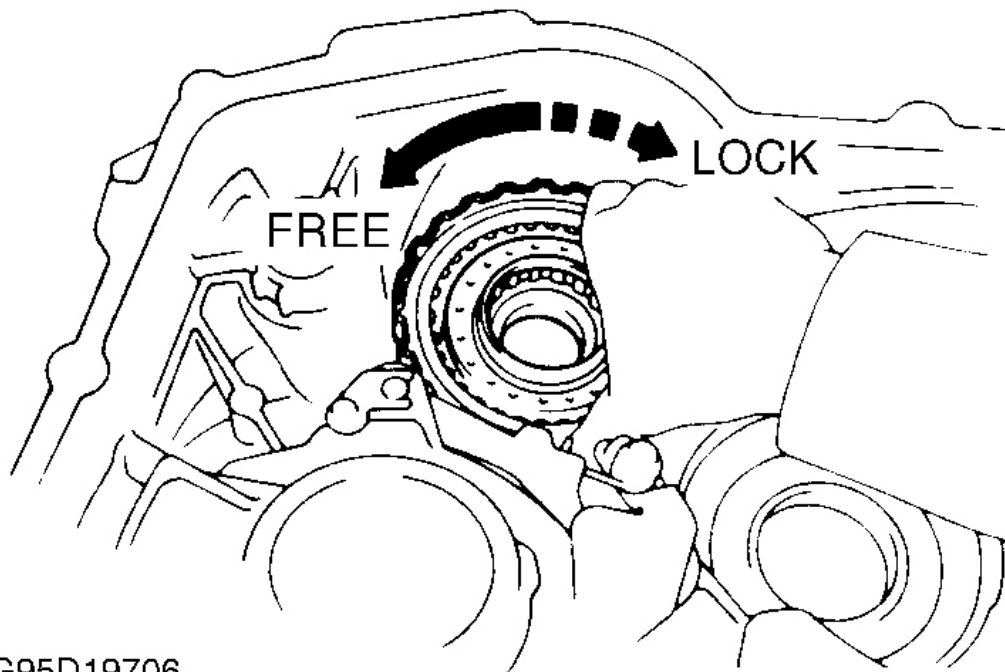

Fig. 52: Checking Underdrive Clutch Operation
11. Install underdrive one-way clutch assembly. Install anti-rattle clip. Align clutch disc tabs in underdrive brake and install underdrive clutch assembly. Check operation of underdrive one-way clutch. Clutch should turn freely counterclockwise and lock clockwise. See Fig. 52.